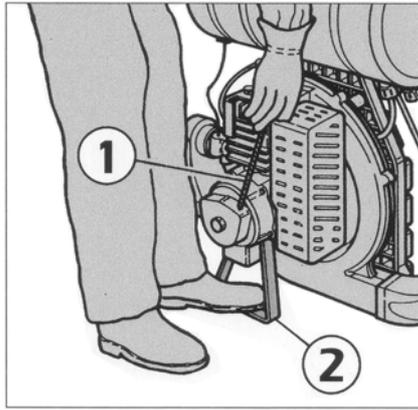

FIG. 6
- 5) Pull the start cord (1 - Fig. 6) about fifteen times so as to turn the motor.